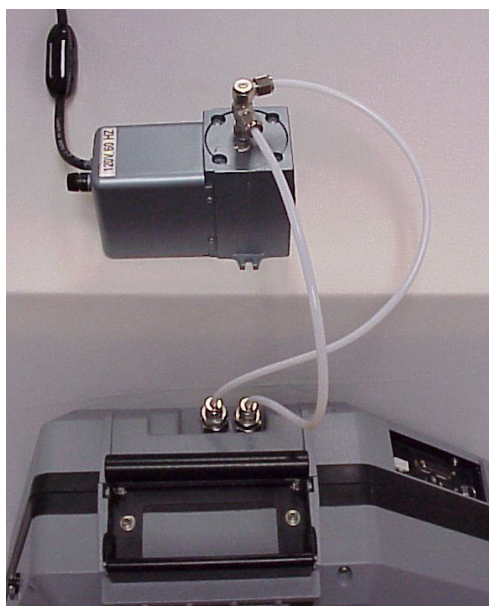

Figure 12-1. Closed Loop Calibration Setup
2. Connect tubing from the OUT connector of the closed loop pump to the IN port on the analyzer. Also connect tubing from the IN connector of the closed loop pump to the OUT port of the analyzer (see Figure 12-1).